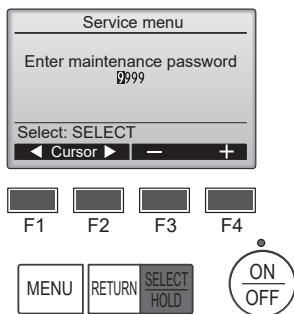

Fig. 7-2
- (1) Select "Service" from the Main menu, and press the [SELECT/HOLD] button.
- (2) When the Service menu is selected, a window will appear asking for the password. (Fig. 7-2)